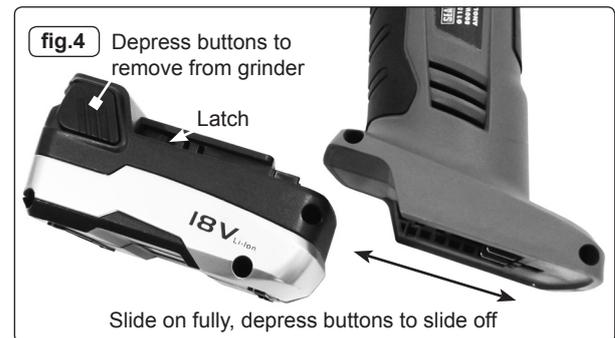

fig.4 Depress buttons to remove from grinder
- 3.1 To remove the battery from the grinder, depress the two spring loaded buttons with thumb and forefinger (fig.4). This action disengages two retaining latches (fig.4) enabling battery removal by sliding. **DO NOT** touch the metal battery terminals.
- 3.7 Remove the battery from the charger. Switch off and remove the plug from the mains. Push the battery back into the grinder (fig.4) until it snaps into place. The grinder is now ready for use.